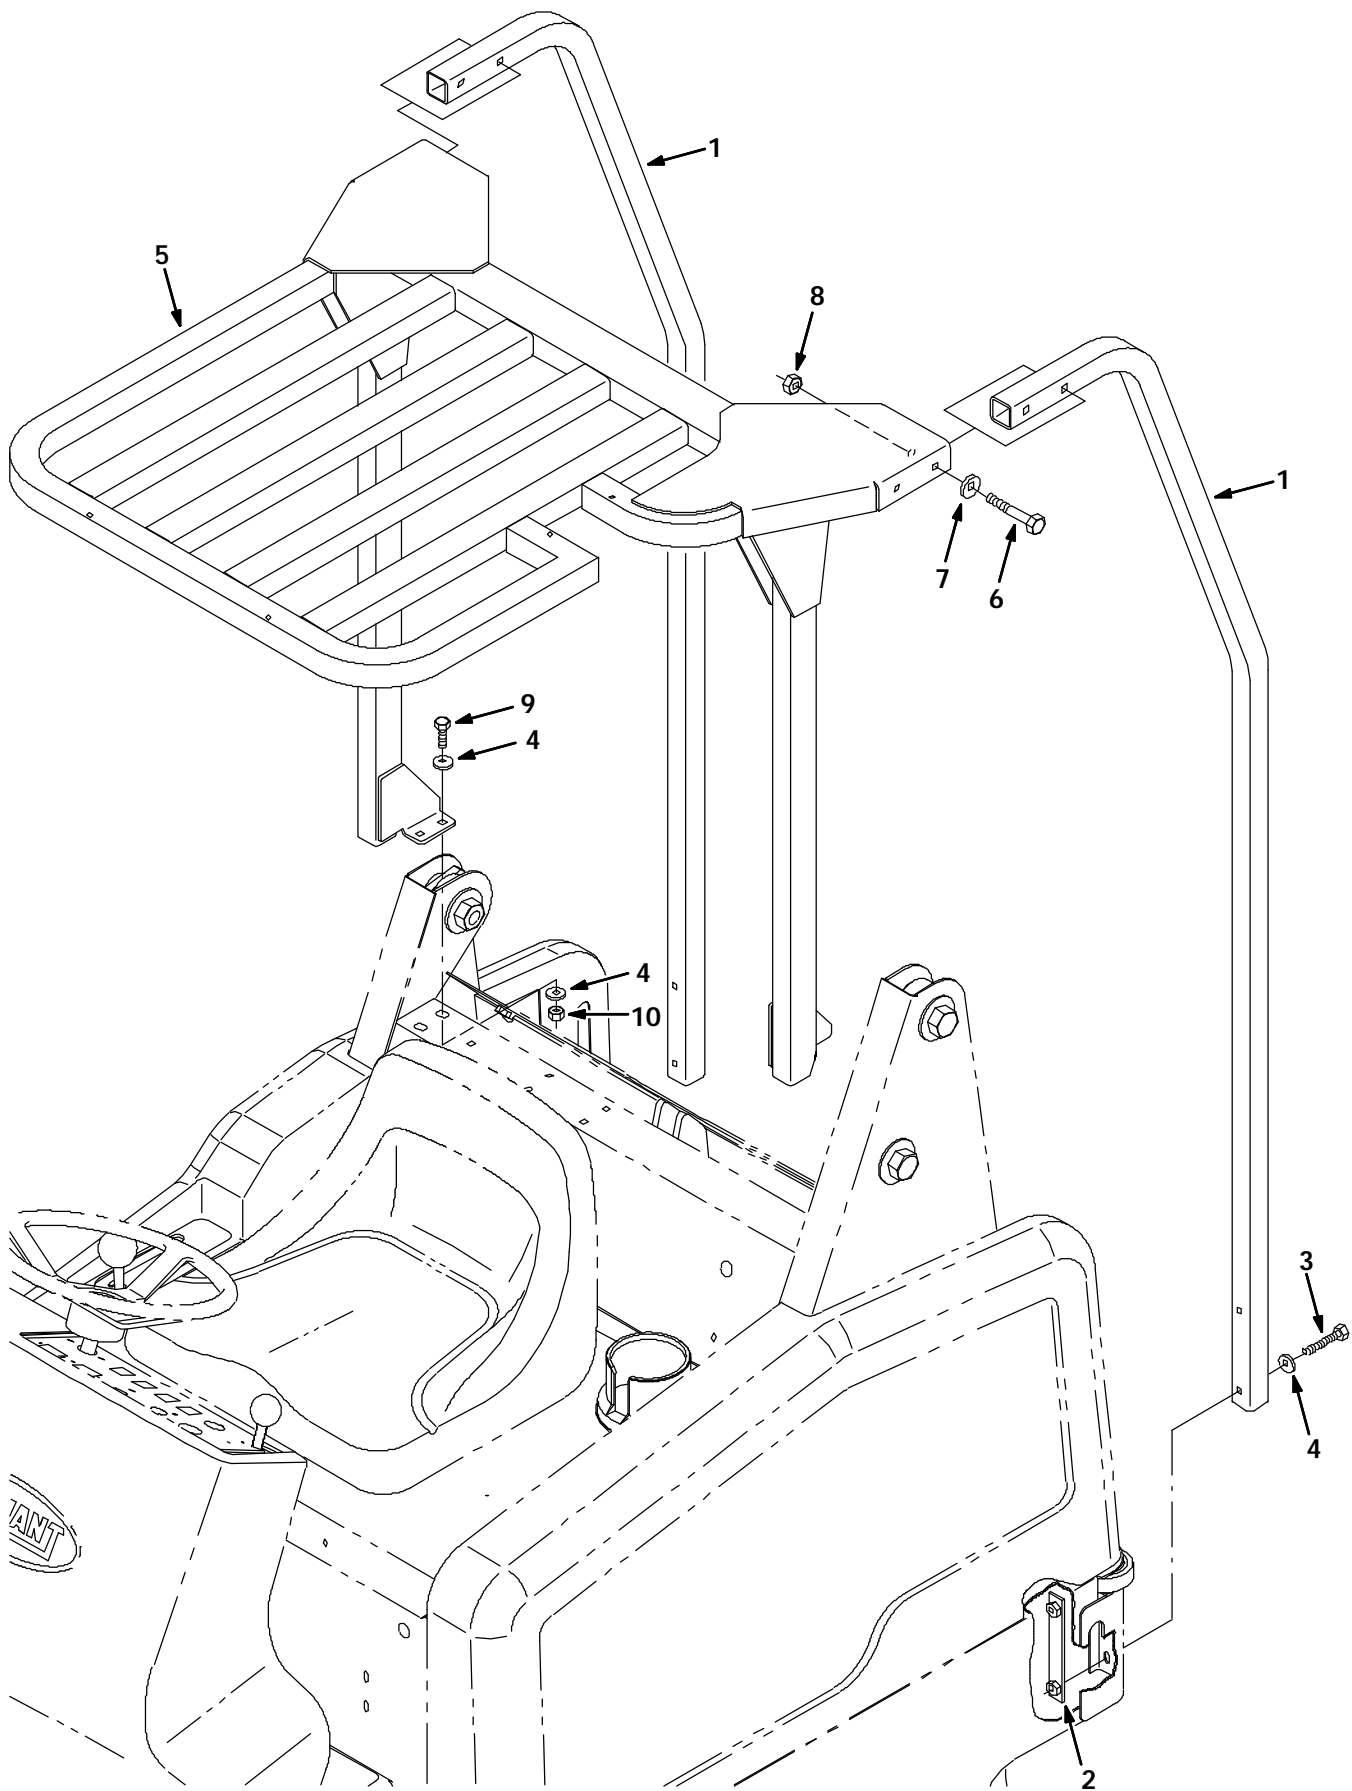

FIG. 1 - OVERHEAD GUARD KIT INSTALLATION
(Refer to FIG. 1)
1. Connect the two rear overhead guard legs (1) to the overhead guard (5) with hex screws (6), washers (7), and lock nuts (8). (Refer to FIG. 1)
4. Loosely mount the overhead guard side mounting locations to the machine with hex screws (9), flat washers (4), and lock nuts (10). (Refer to FIG. 1)
5. Loosely mount the rear legs (1) to the machine with hex screws (3), flat washers (4), and leg plates (2). (Refer to FIG. 1)